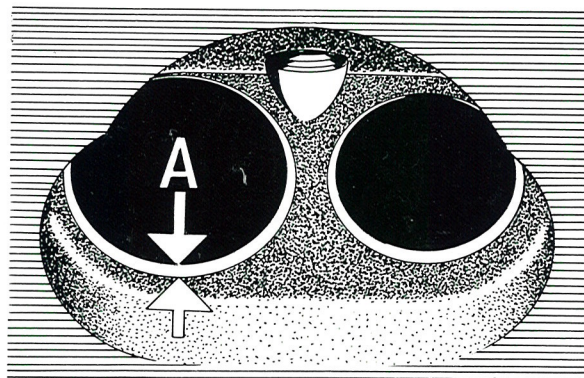

Fig. 2-27. Valve seat width A=2 mm (0.08")
2. Grind the valve seats. Use an electrically driven grinder or a hand milling cutter. A pilot spindle must be carefully fitted before work is started and any worn guides must be replaced with new ones. The seat should be ground until a good sealing surface is obtained. The angle is 45° and the width of the sealing surface should be approx. 2.0 mm (0.08"), see "A" Fig. 2-27. If the sealing surface is too wide after grinding, it can be reduced by using a 70° grinding stone from the inside and a 20° grinding stone from the outside.